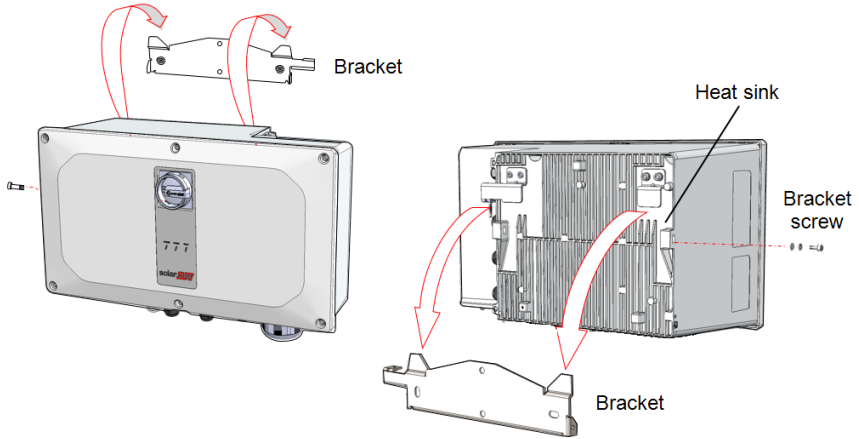

Figure 17: Hanging the Synergy Manager
- Align the two indentations in the enclosure with the two triangular mounting tabs of the bracket, and lower the unit until it rests on the bracket evenly (see *Figure 17*).
- b. Align the two indentations in the enclosure with the two triangular mounting tabs of the bracket, and lower the unit until it rests on the bracket evenly (see *Figure 17*).